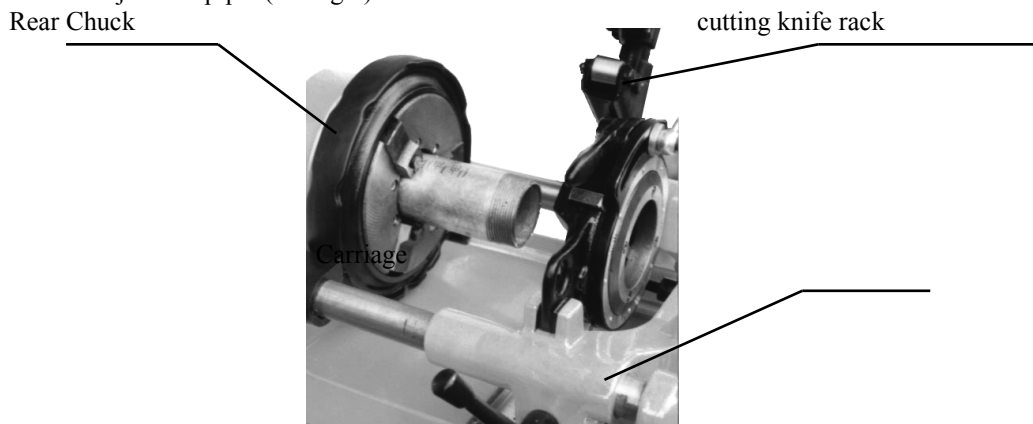

Fig.4
3. Pull up the cutting knife rack and beveling rack, push down the screwing die head, turn the carriage handle to let the die head to join the pipe. (see fig.4)